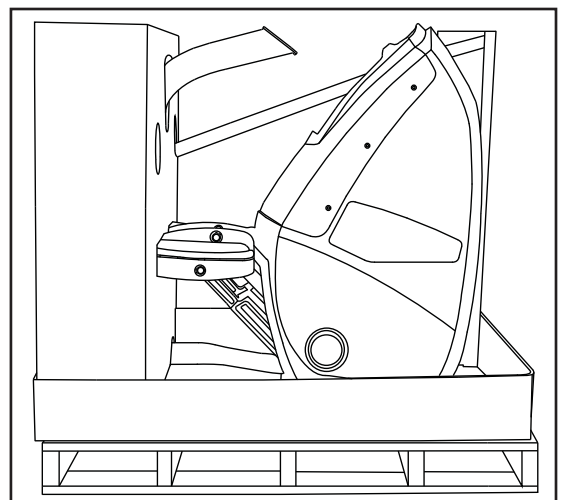

Figure 3
**2-2** With both hands, carefully lift the handrail and remove from the box (see Figure 3).